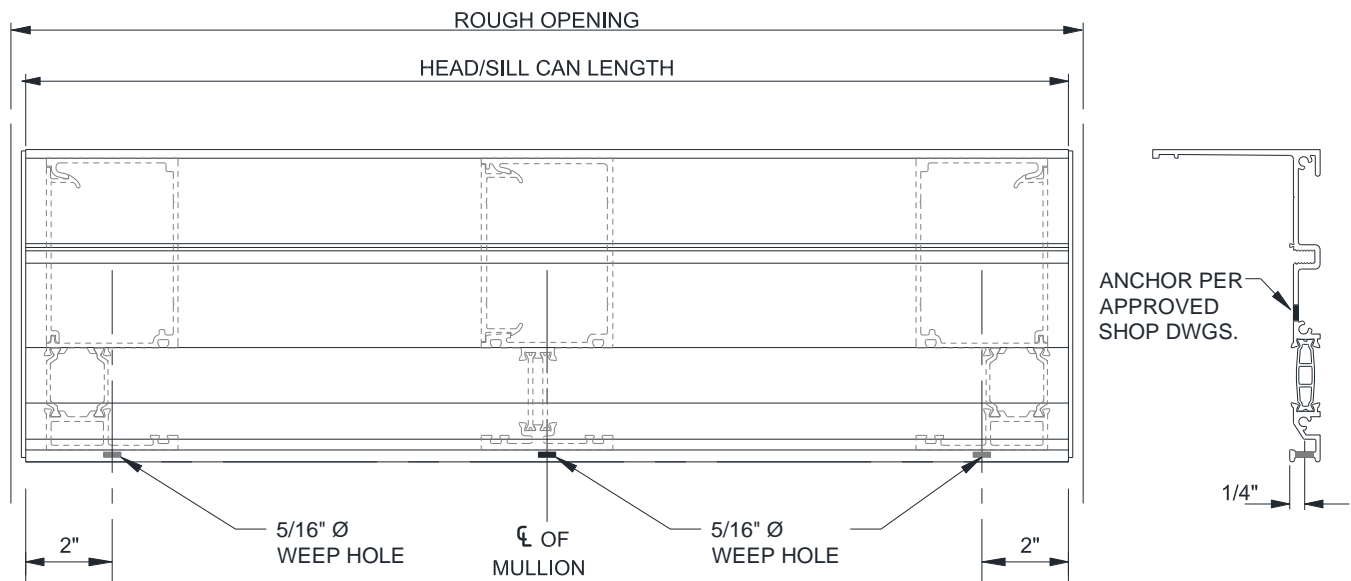

Figure 15: TWW-511 Sill Receptor, TWW-514 Similar
6.2 Drill 5/16" Ø weep holes in the "V" groove on the front face of the Sill Receptor at the center of each Vertical and the midpoint of each D.L.O. between Verticals. See *Figure 15*.